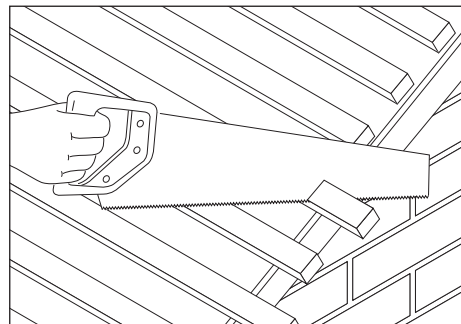

Fig. 1 – Saw battens flush
- 2 Where possible, set out the tiling so that the leg of the cloak verge fits flush with the brickwork or bargeboard. If so, cut the ends of the battens flush with the outer edge of the gable wall or bargeboard (Fig. 1).